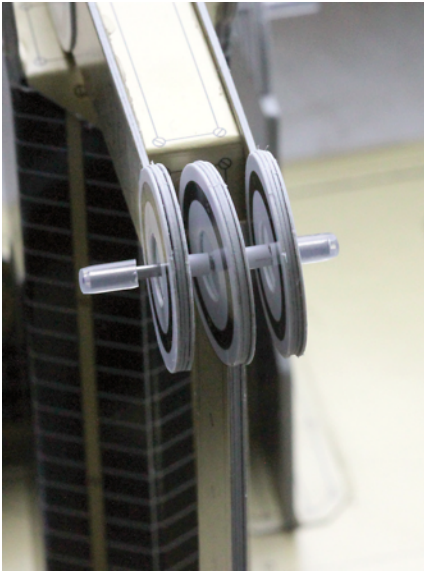

Fig 3: Mounting of connecting rod and piston rod on the walking beam
Step 20: Take one of the two 27mm axles and fit one of the end stops to it. Push the axle through one of the bearings at the end of the walking beam, and then through a spacer made from the cotton bud tube. Now push the axle through one of the connecting rod bearings, add another spacer, push it through the other walking beam bearing and fit a second end stop. Check the bearing for frictionless function, the connecting rod is fitted correctly when it shows a bit of play and can also be slightly twisted sideways (Fig 3).